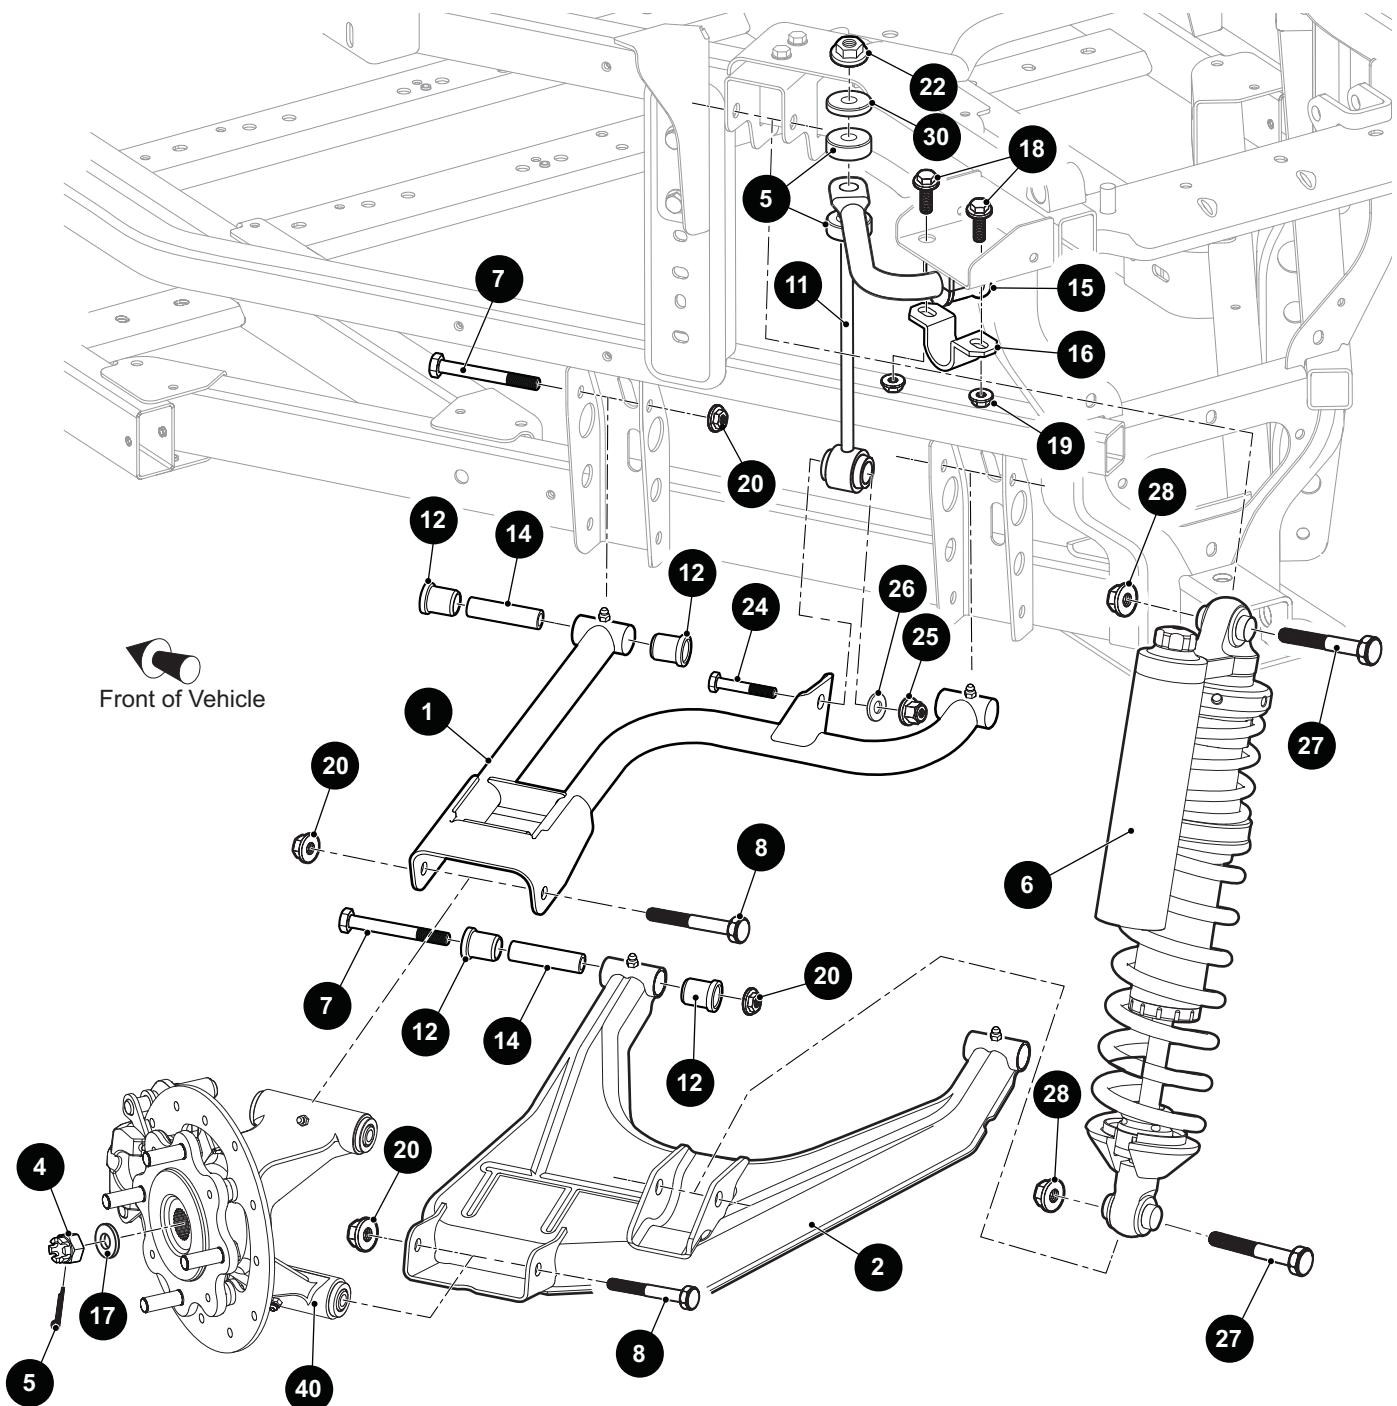
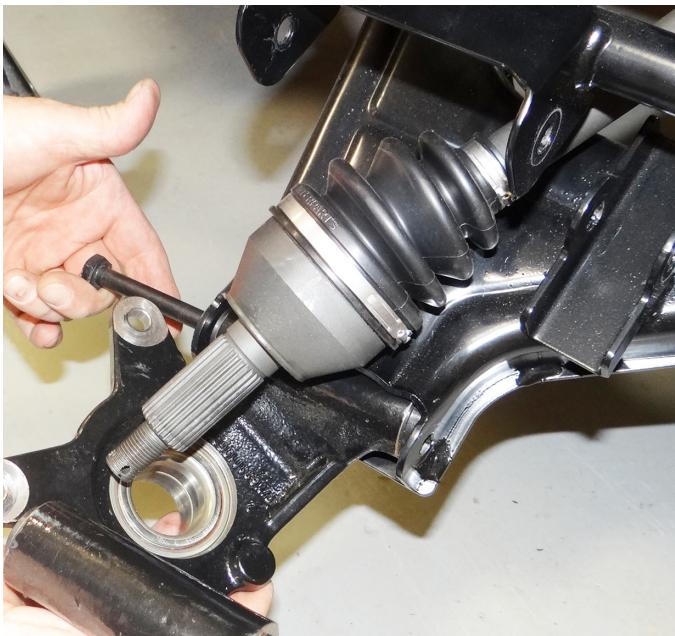

Fig. 1 Rear Suspension Components
**Fig. 5 Spindle**
- Remove the bolt (8) and nut (20) that secure the spindle (40) to the upper control arm (1) (Ref. Fig. 1) (Ref. Fig. 5).
- Remove the bolt (8) and nut (20) that secure the spindle (40) to the lower control arm (2) (See Fig. 1) (Ref. Fig. 6). Slide the spindle assembly off the CV axle splines.